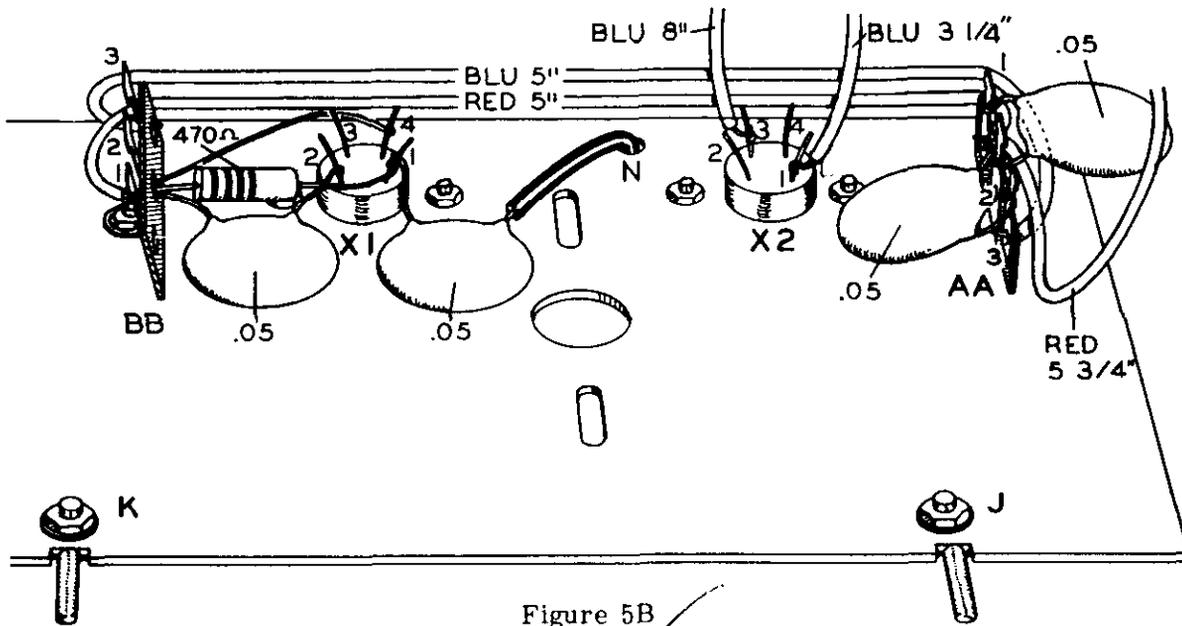

Figure 5B
Refer to Figures 5B and 5C for the following steps:
- (✓) Cut both leads of a 62 KΩ resistor (R1, blue-red-orange) to 3/8" in length. Connect one lead to pin 2 of transistor socket X1 (NS). Connect the other lead to lug 3 of terminal strip BB (NS).
- (✓) Cut both leads of a 1 KΩ resistor (R2, brown-black-red) to 3/8" in length. Connect one lead to pin 2 of transistor socket X1 (S-3). Connect the other lead to lug 1 of terminal strip BB (NS).
- (N) Insert one end of a 5" length of blue wire in the eyelet of lug 3 terminal strip BB and solder (S-1, eyelet only). Routing behind both red wires and the .05 μfd capacitor, connect the opposite end to the eyelet of lug 3, terminal strip AA (S-2, eyelet only). See Figure 5B.
- (✓) Connect the free end of the shorter (5") red wire to lug 1 of terminal strip BB (S-2). See Figure 5B.